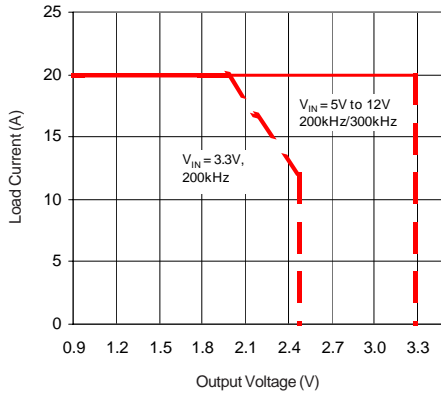

Fig 5. Recommended Operating Area
- ① For Vin less than 4.5V requires external 5V_{DD} supply.
- ② Can be modified to operate up to 3.3V_{OUT} outside of DAC settable range. See Design Guidelines on how to set output voltage greater than 2V.
- ③ See design guidelines.
- ④ See Fig. 5 for Recommended Operating Area
Note: If input voltage <5Vin nominal operation is required then first see Fig. 5 for maximum current capability limit.